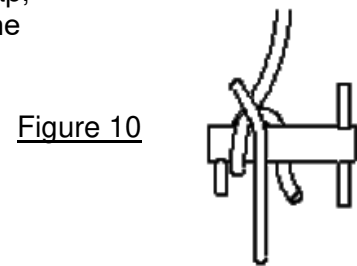

Figure 10
- Continue by looping the rope around the “short leg” of the Port-A-Wrap, ensuring the rope is captured between the “rope retention bar” and the “large loop” Pass the rope back through the “small loop” (Figure 10).